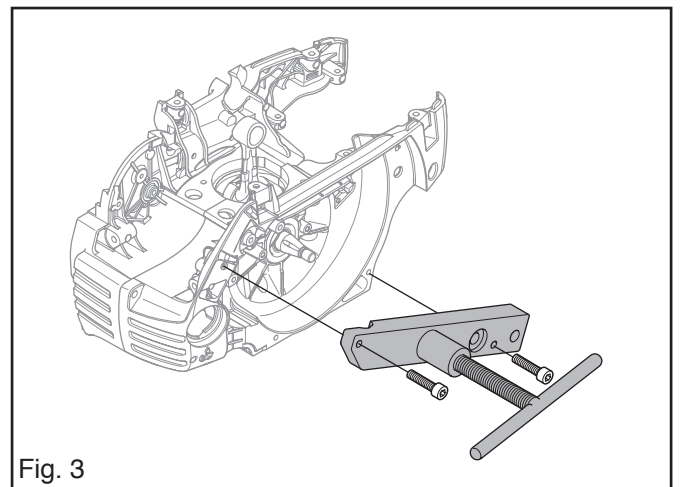

Fig. 3
5. Fit tool 502 52 49-01 as shown in fig. 3 and remove the crankcase half on the flywheel side.
6. Remove the crankcase half on the clutch side in the same way as item 5 above.